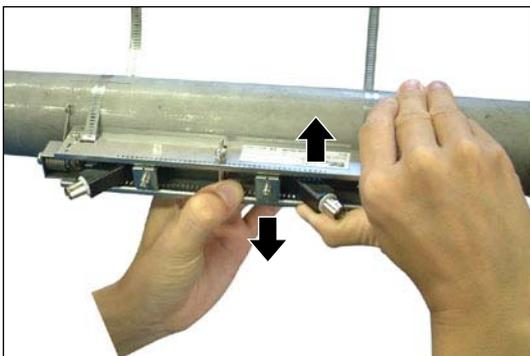

Fig. 3-41
- (2) By hand, hold the frame near the pressing fixture for a sensor unit to remove. Press the resin section which stands out of the frame of sensor unit just enough to open the frame a little (about 1 mm). At this time, the claws of sensor unit fixture are disengaged from the frame (Fig. 3-41).